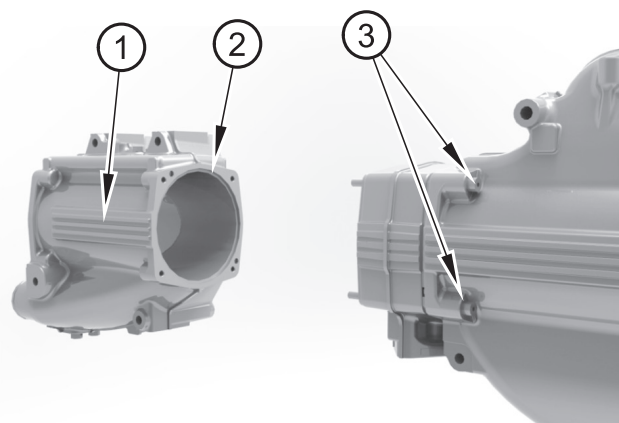

Figure 20
2. Undo the bolts (figure 20 item 3) and remove the heat exchanger body (item 1). Withdraw the O ring seal (item 2).